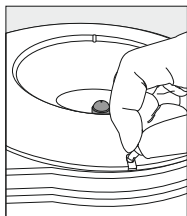
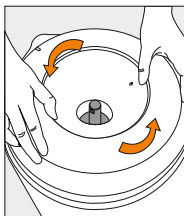
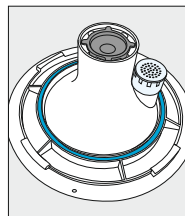

Figure 18
Figure 19
Figure 20
3. Remove the locking pin (Figure 18) from the Crystal Guard, which may be stiff, requiring a tool. Use the fingertips of both hands to press on the Crystal Guard and turn counter clockwise till it is free from the cooler opening. (Figure 19 and Figure 20)